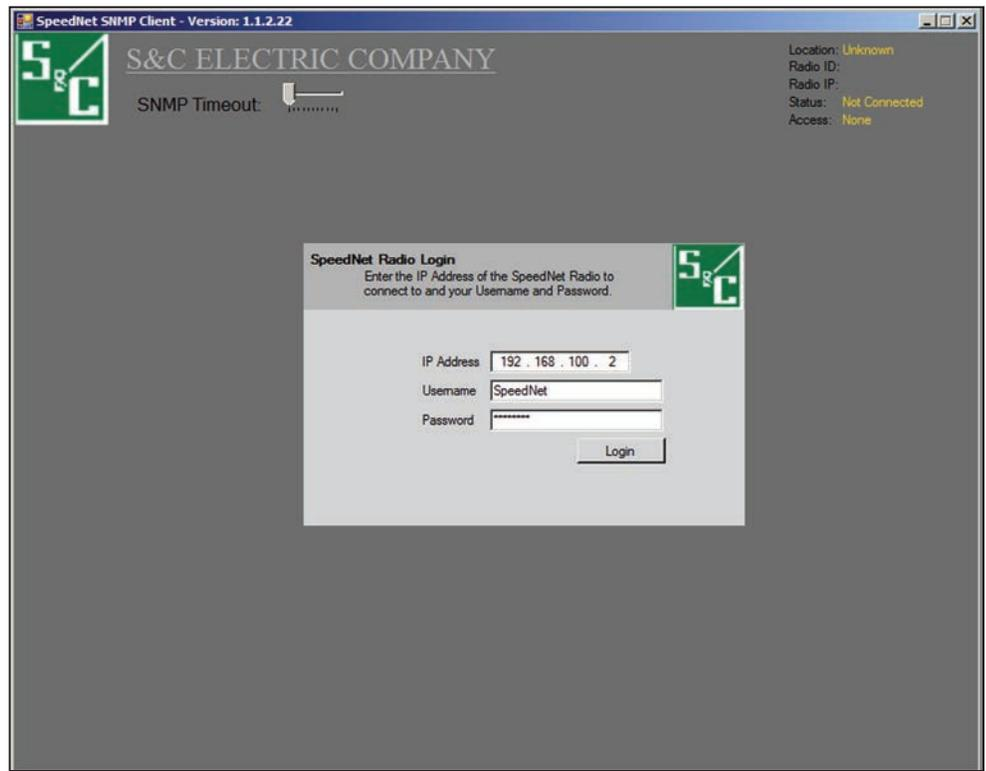

Figure 25. SpeedNet Radio Login dialog box.
STEP 7. Start the SpeedNet Client Tool software and enter the appropriate login credentials. Figure 25 shows a sample login screen with factory default settings.